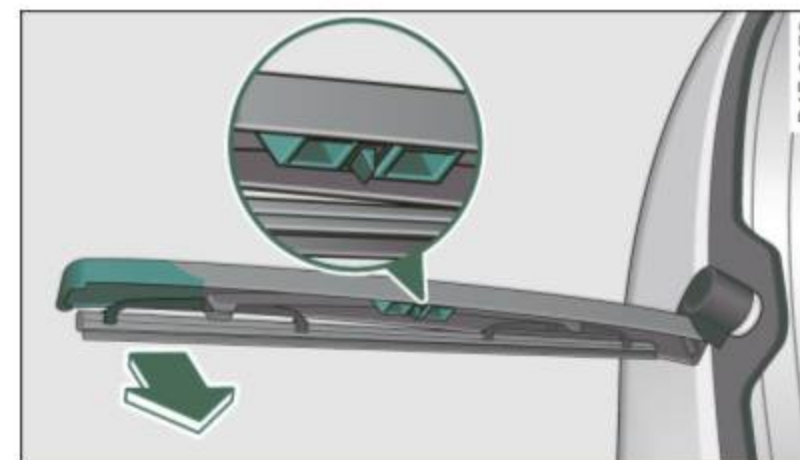

Fig. 87 Installing/removing wiper blade
- Pull the metal surround of the wiper blade out of the retainer in the direction of the arrow ⇒ fig. 87. Hold the wiper arm firmly by the upper end as you do this.
- Adjust the position of the wiper blade in the retainer ⇒ fig. 87 (see close up).